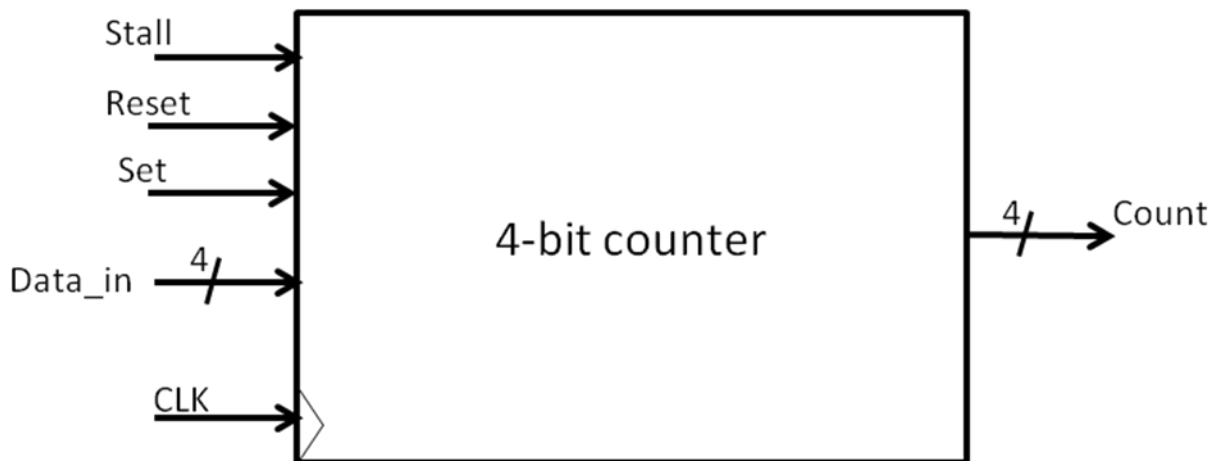

Figure 1
- i. The top level of your 4-bit counter should match Figure 1.